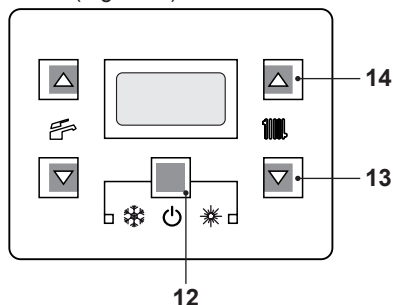
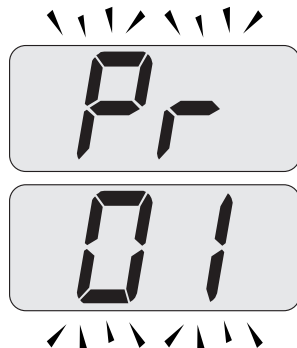
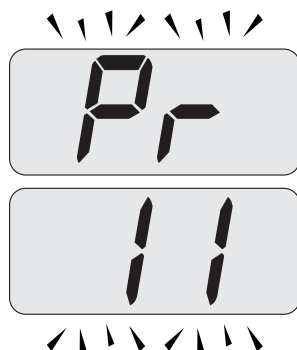

Fig. 8.14
Fig. 8.15
Fig. 8.16
- Enter in "programming mode" by sequentially pressing keys 12 - 13 - 14 (Fig. 8.14) for 10 seconds at the same time until the letters **Pr** that alternate with code **01** are displayed on the LCD display, indicating that "parameter 01" (Fig. 8.15) has been activated.
- Scroll the various parameters using keys 13 or 14 until the letters **Pr** that alternate with code **11** are displayed on the LCD display, indicating that "parameter 11" (Fig. 8.16) has been activated.
- Press keys 12 and 14 (Fig. 8.14) at the same time until the value of parameter 11 (10=60 seconds) (Fig. 8.17) is displayed on the LCD display .
- By pressing key 12 (Fig. 8.14) confirmation of the inserted value is obtained.
- Press keys 12 and 13 (Fig. 8.14) at the same time to exit without changing the value (return to the parameters list Fig. 8.16).
- Press sequentially keys, 12 - 13 and then 14 (Fig. 8.14) and hold in for 10 seconds to exit the "programming mode".